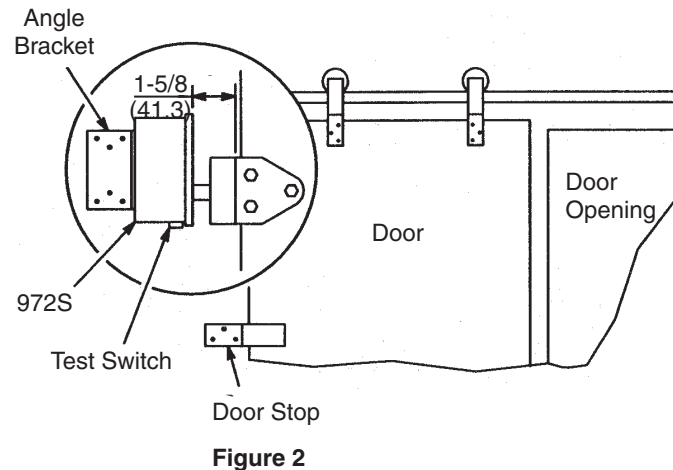
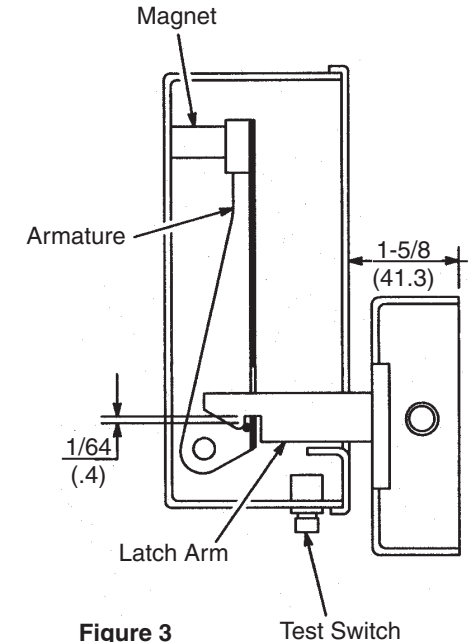

Figure 2
Figure 3
4. Attach angle bracket to main unit using four (4) 1/4-28 x 1/2" hex head machine screws and lockwashers. DO NOT tighten screws. See Figure 2.
- a. Align main unit so latch arm passes through the center of the opening in the armature. Unit must be mounted vertically. (Test switch on 972S unit must be towards floor.) Tighten four (4) 1/4-28 x 1/2" hex head machine screws on angle bracket and main unit.
- c. Hold unit in this position and mark location for two (2) mounting screws. Drill holes and secure bracket.
- Use four (4) #20 x 2" lag screws and lockwashers for installation into wood backing.
- Use two (2) #20 x 2" lag screws, lockwashers and rawl plugs for installation into masonry walls. Drill 3/8" (9.5mm) diameter holes for rawl plugs provided.
- Use two (2) 5/16-18 x 3/4" machine screws and lockwashers for metal mounting. Drill and tap 5/16-18 holes.
- d. Align latch unit for 1/64" (.4mm) vertical clearance between latch arm and catch on armature. See Figure 3.